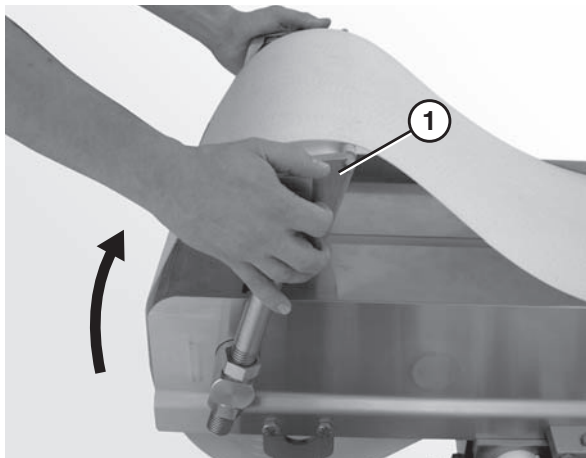

Figure 48
1. Place the idler tail (**Figure 48, item 1**) in the UP position.